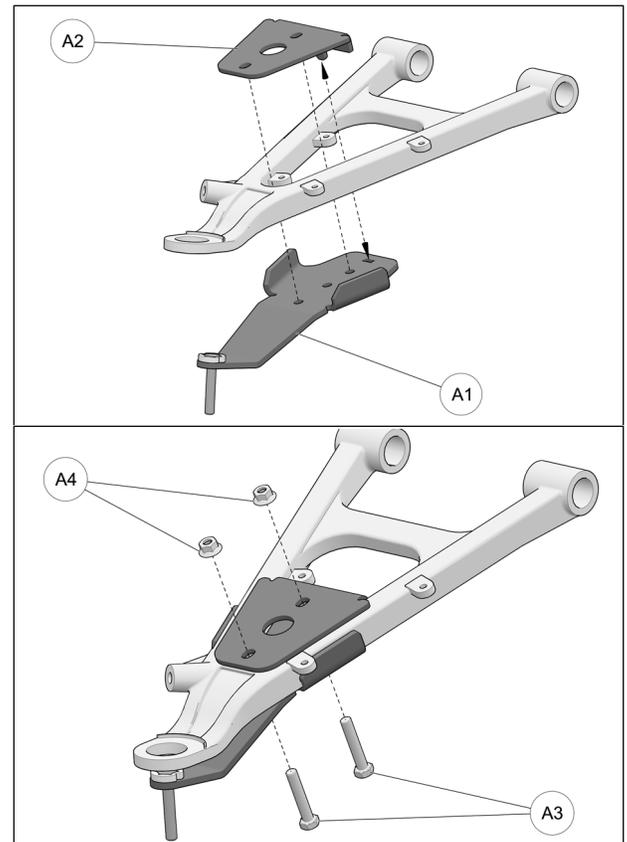

Fig. 16
5. Position bottom part of anchor bracket (**A1**) assembly under front lower suspension arm, as shown in the figure below. Position bracket cover (**A2**) over suspension arm and align holes in cover and bottom part. Insert M10x55mm bolts (**A3**) through top and secure the two parts together with nuts (**A4**) provided. Tighten assembly to 50 N•m [37 lb•ft] of torque. Refer to Fig. 16